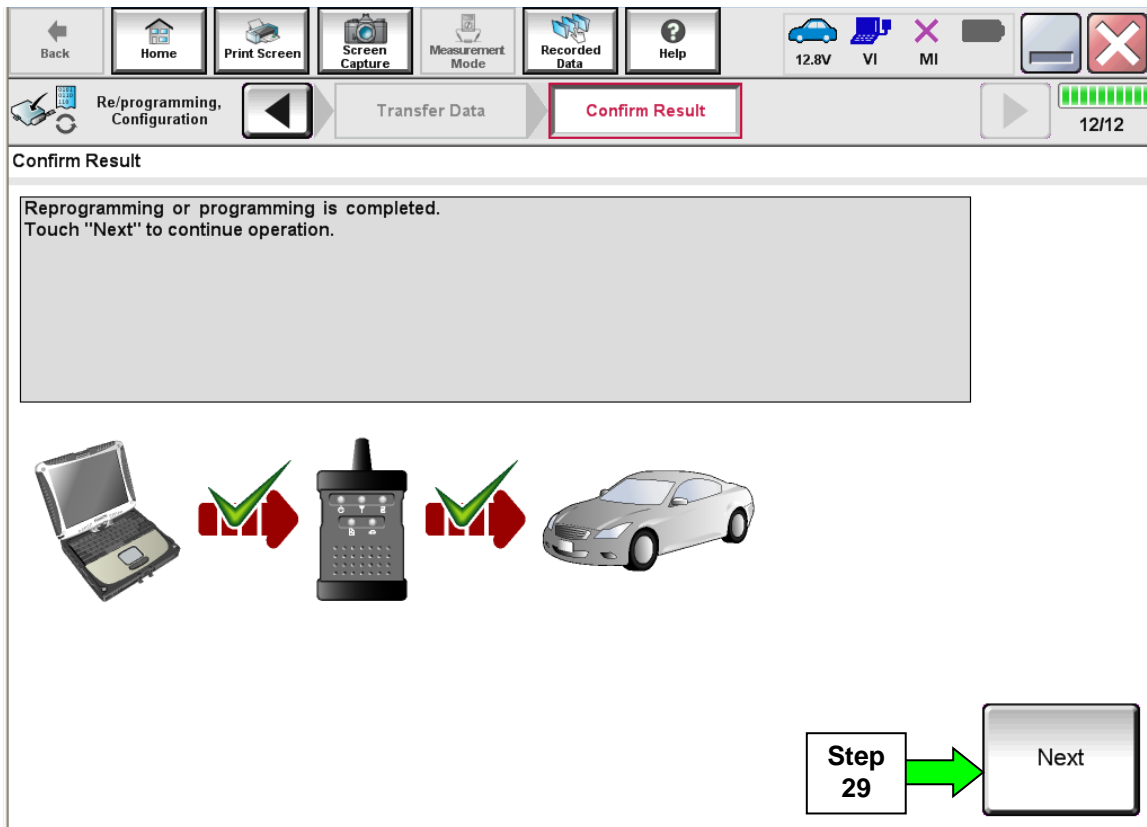

Figure 13
27. When the screen in Figure 13 displays, reprogramming is complete.
NOTE: If the screen in Figure 13 does not display (indicating that reprogramming did not complete), refer to ECM Recovery on the next page.